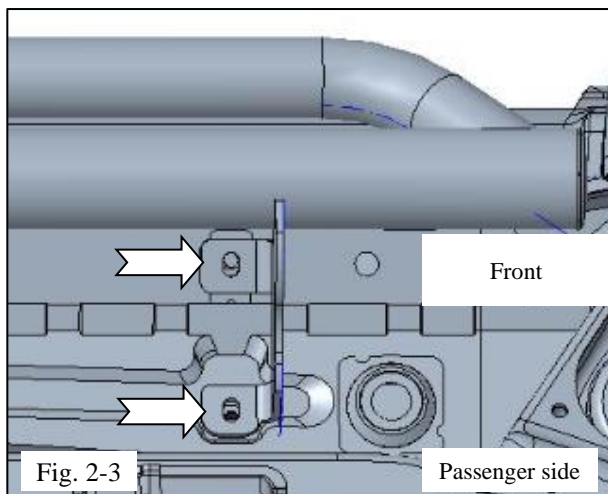

Fig. 2-3
- Align the two front bracket holes with the threads in the vehicle and hand start two M8 bolts 2-3 threads at these locations (Fig. 2-3).